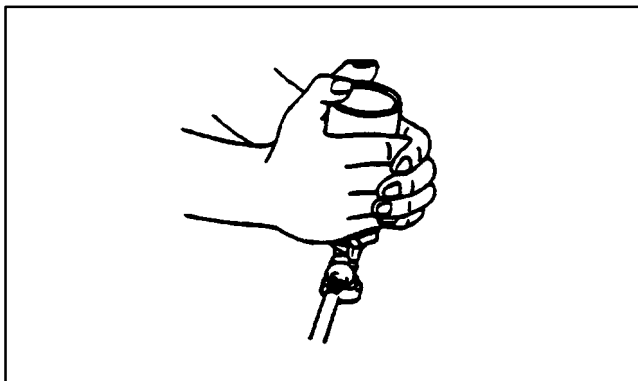

Figure 10
- (7) Warm the refrigerant oil charge can with your hands or a warm towel so that the refrigerant oil charge can is emptied more easily. **(Figure 10)**